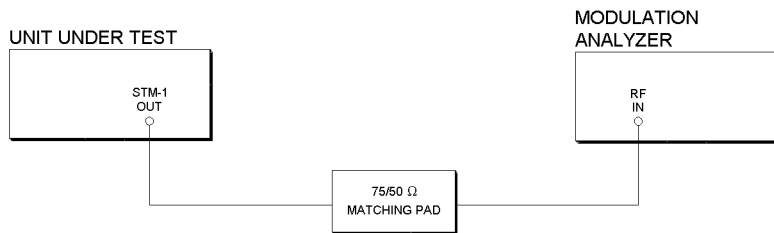

Figure 3-49
3. Connect up the equipment as shown in Figure 3-49.